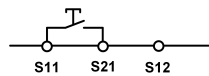
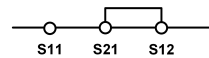

Fig. 3:
Fig. 4:
- The start circuit must be wired corresponding to the application according to Fig. 3 or Fig. 4.